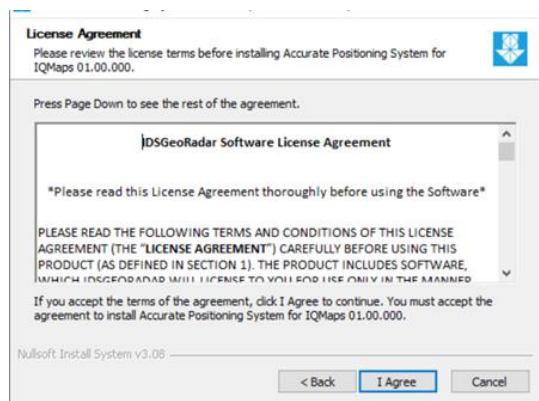

Fig. 19 APS install step 2
3. Select **I Agree** button to accept the License Agreement (Fig. 19),